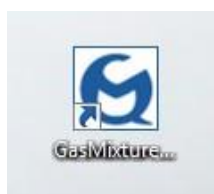

Figure 5-8
1. Launch the software double-clicking on the MCQ INSTRUMENTS Gas Mixture Creator's shortcut icon located on your desktop. (Figure 5-8)